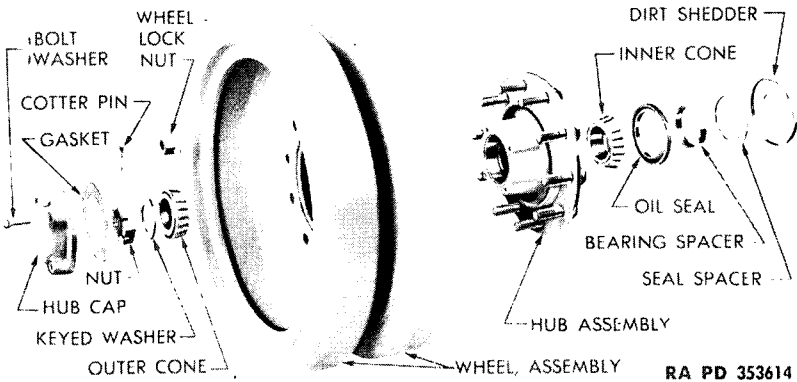

Figure 22. Wheel hubs, bearings, and seals, disassembled.
18. Track Wheels, Hubs, and Support Arm and Housing Assemblies (fig. 22)
a. REMOVAL AND DISASSEMBLY. (1) *Track wheels and hubs.* Remove and disassemble track wheels and hubs (TM 9-729 or TM 9-744).
(1) *Torsion bar.* Inspect serrations on both ends of bar (fig. 22) for damage that may cause failure in service. Examine serrations for wear, and check backlash when installed in torsion bar anchor and in suspension arm. Backlash should be within 0.004 to 0.008 inch. Torsion bars must not be repaired by heating or welding because heat destroys the torsion characteristics, and weakens the bars so that they may fail in service. Measure diameter of torsion bar at outer end by placing two 0.1300-inch diameter wires 180° apart in the serrations of the bar. Outside diameter of torsion bar should be 2.442 to 2.444 inches over wire. Measure diameter of torsion bar at anchor end by placing two 0.1300 inch diameter wires 180° apart in serrations of bar. Diameter of torsion bar should be 2.341 to 2.343 inches over wires. Diameter of torsion bars D60591A and D60591B at center should be 1.719 to 1.734 inches. Diameter of torsion bars D60417A and D60417B at center should be 1.563 to 1.568 inches. Diameter of torsion bars 7053474 and 7053475 at center should be 1.875 to 1.890 inches.